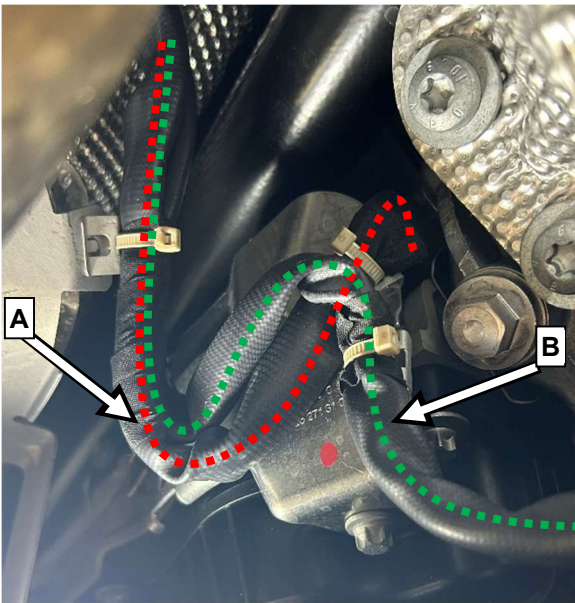
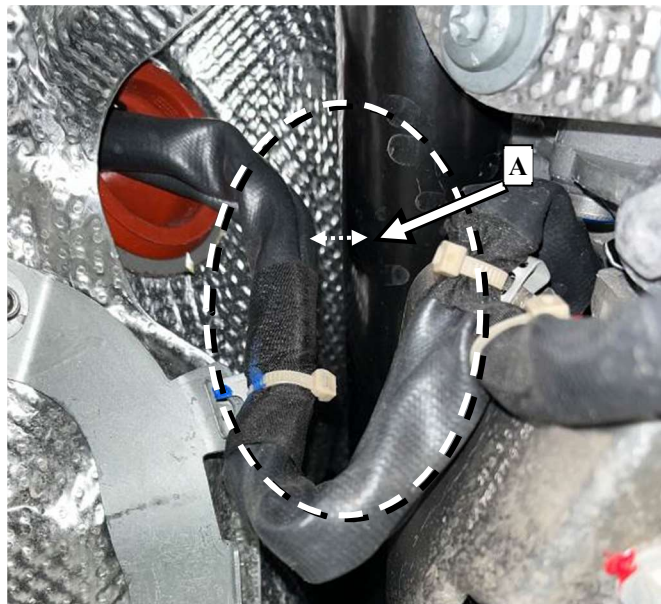

Figure 1 – Red (A): Power supply line
Figure 2
1. Check routing (**Figure 1**) and distance (**Figure 2**) between electrical wiring harnesses and the transmission tunnel/drive shaft and the transfer case to front axle differential (indicated parts).
i The distance between the electrical wiring harness and the drive shaft **must be** at least **10 mm** (**Figure 2, A**).
Work Procedure 2b: Signal lines (**Figure 1, B**) are damaged.
- c. Electrical power supply line (**Figure 1, A**) (line cross-section 10 mm²) **is damaged**: Carry out **Work Procedure 3**.